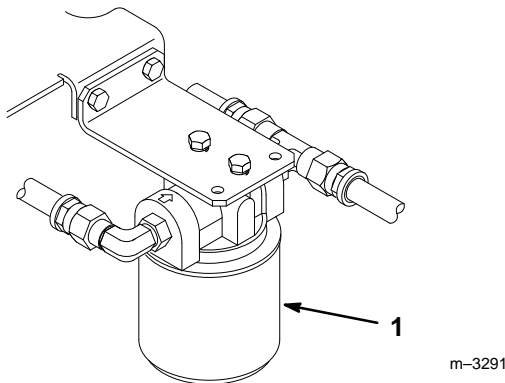

Figure 28
3. Place drain pan under filter, remove the old filter and wipe the filter adapter gasket surface clean (Fig. 28).